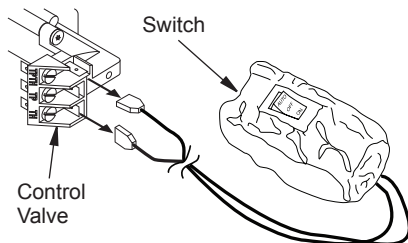

Figure 19 - Disconnecting Switch from Control Valve
7. If installed, disconnect AUTO/OFF/ON switch wire from control valve at TPTH and TH locations (see Figure 19).